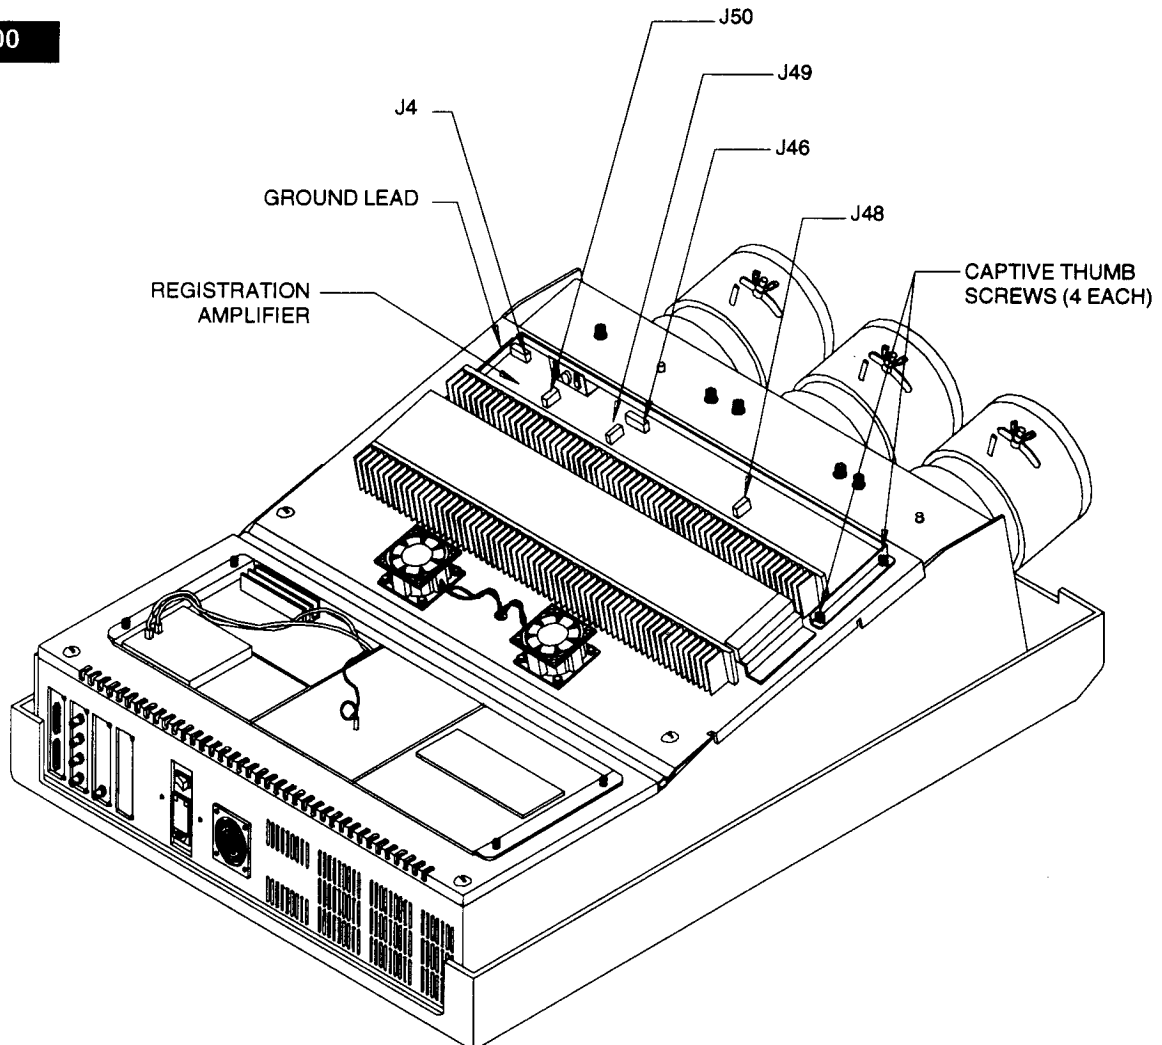
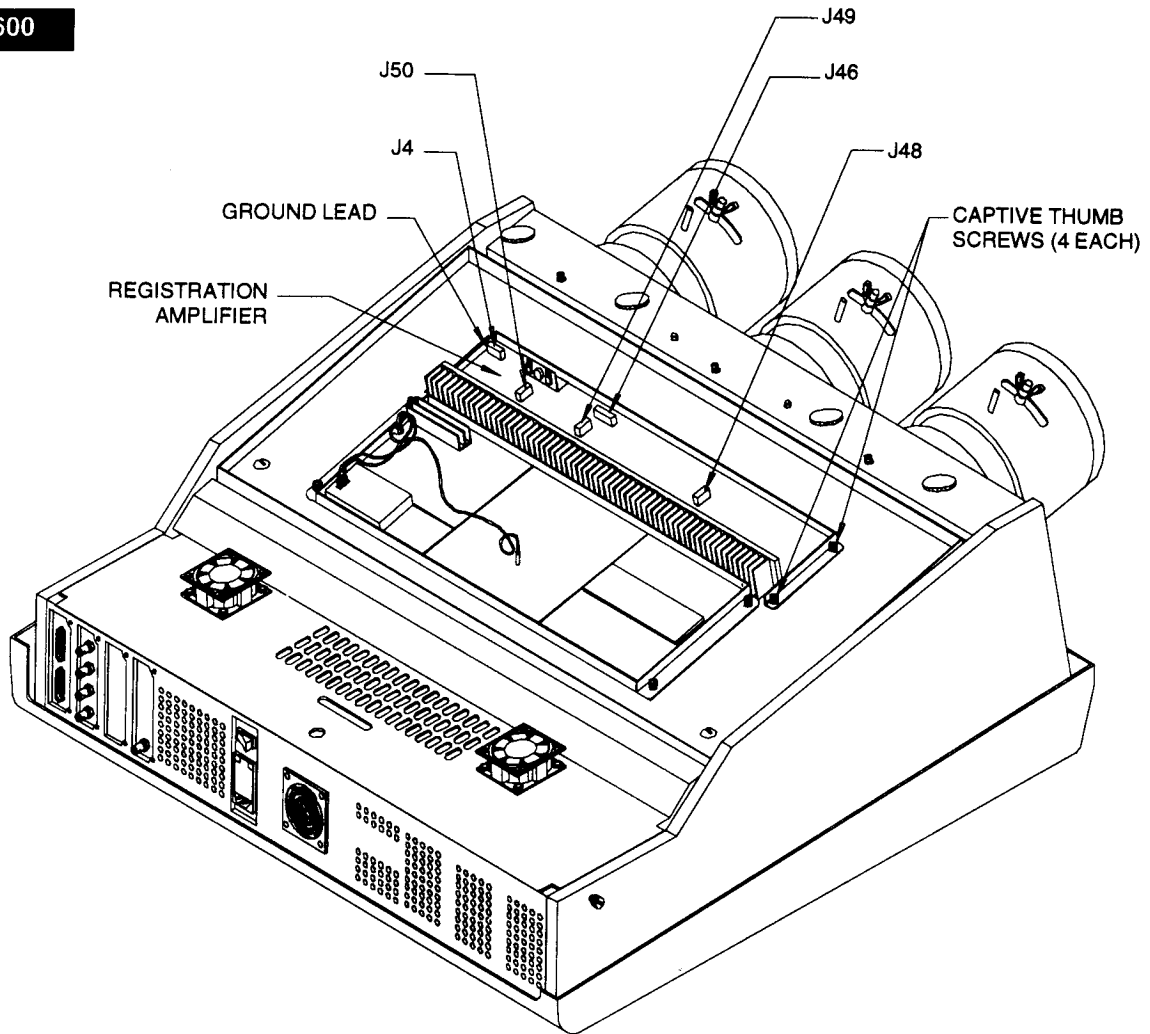

FIG. 9-21. 3600 Registration Amplifier remove/replace.
FIG. 9-22. 4600 Registration Amplifier remove/replace.
- STEP 3. On the Registration Amplifier board disconnect the following plugs; J4, J46, J48, J49, J50 and the ground lead. See Figure 9-21 (3600) and/or Figure 9-22 (4600).
- STEP 4. Loosen the four (4) each captive thumb screws located on both sides of the Registration Amplifier board and lift this assembly out.
- STEP 5. Install the replacement procedure and secure with the four (4) captive thumb screws.